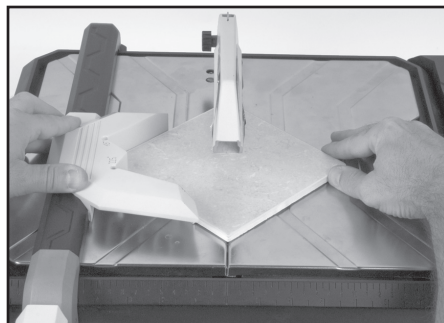

FIGURE 15
3. Carefully push the angle guide and material towards the blade (see FIGURE 15).